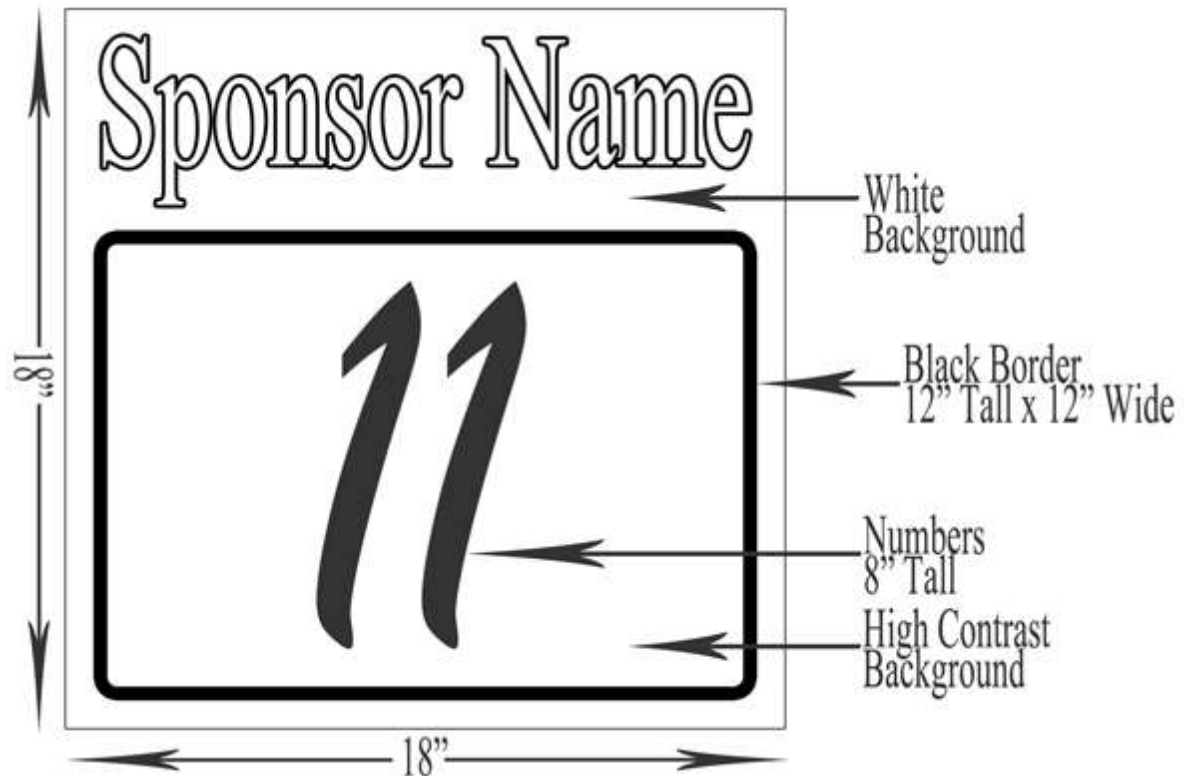

Fig. 1
30. The replacement composite bonnet, doors, trunk lid and tail gate must match the original metal panels exactly otherwise the Scrutineers may reject them at their sole discretion. The shape of the wheel arch/fenders are free but must cover the wheel as per item 14.
- c. All cars shall carry three competition/sponsor number panels (see **Fig. 1**). Two panels measuring 18" X 18" shall be placed on both front doors of the vehicle. They must be placed as high up and as far forward as possible on the doors and should fixation require cutting of the panel to accommodate vehicle shut lines, it must be achieved without defacing the competition number or any Championship sponsor's logo.